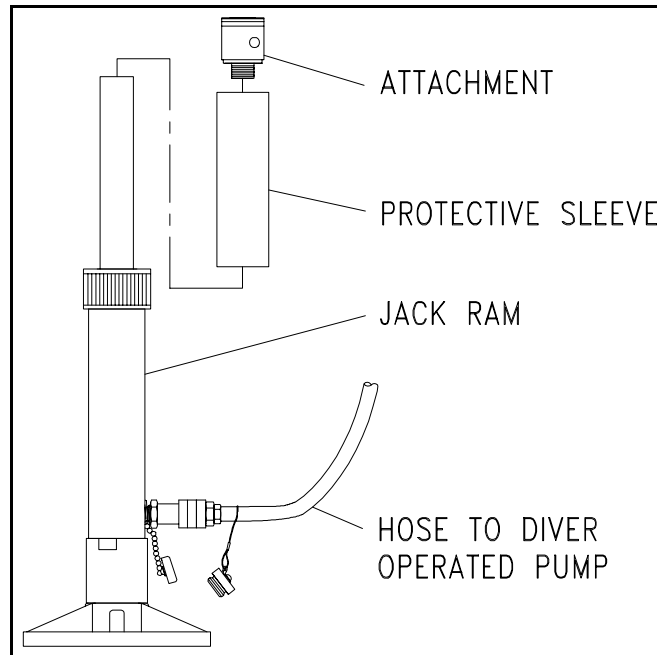

Figure C-2. Jack Ram and Protective Sleeve
- e. The jack plunger is protected by a 3-inch schedule 40 PVC protective sleeve (Figure C-2). The sleeve is 6 or 10 inches long according to the length of the plunger used.
- (1) Close diver operated pump release valve.
- (2) Operate diver operated pump handle as required to extend the jack plunger.
- (3) Unscrew attachment on end of jack plunger.
- (4) Coat surface of plunger with light coating of lubricant.
- (5) Place PVC sleeve over plunger.
- (6) Reinstall attachment on plunger.
- (7) Open diver operated pump release valve to retract plunger.